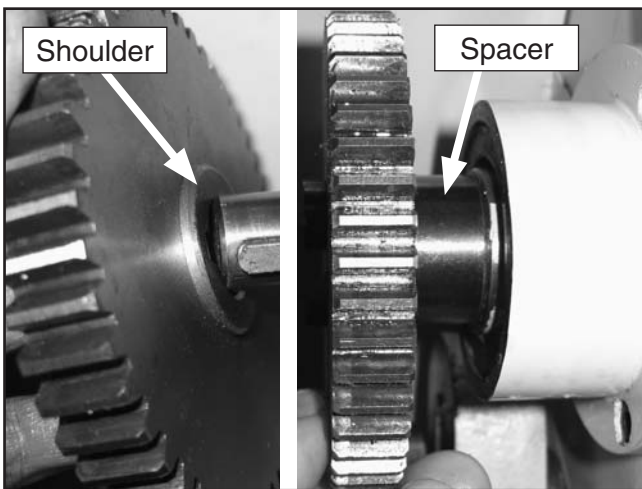

Figure 61. Upper spindle gear and spacer positioning.
12. Slide the spacer onto the spindle, then the 48-toothed gear with the shoulder facing the spacer (**Figure 61**). Install the spacer washer, and secure with the cap screw.